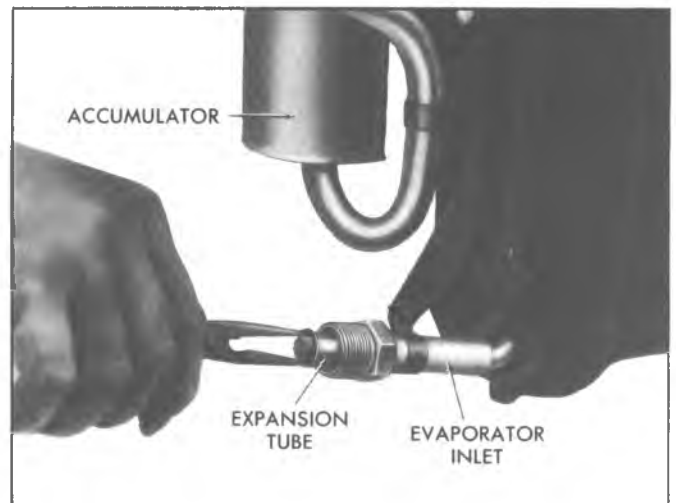

Fig. 61--Expansion Tube (C-K Four-Season System)
### Replacement (Fig. 61)
3. Using needle-nose pliers, remove the expansion tube from the evaporator core inlet line (fig. 61).